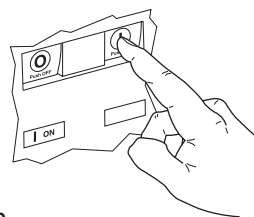

Fig. 9
- Press the **ON** button. The ON indication is displayed (see Fig. 9).